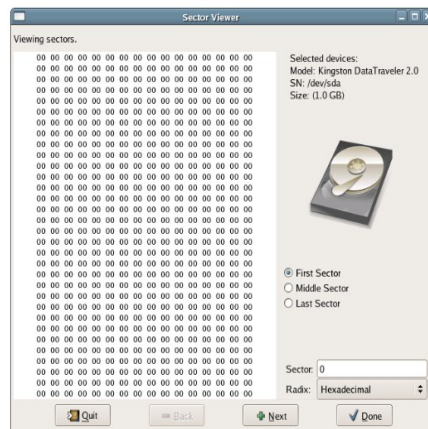

Figure 6.1 – Sector Viewer Screen
6.2 After highlighting a drive, right click on the selected drive and a “Sector Viewer” dialog box will be displayed. Click on this dialog box and the Sector Viewer windows will appear. The sector viewer is shown in Figure 6.1 below.